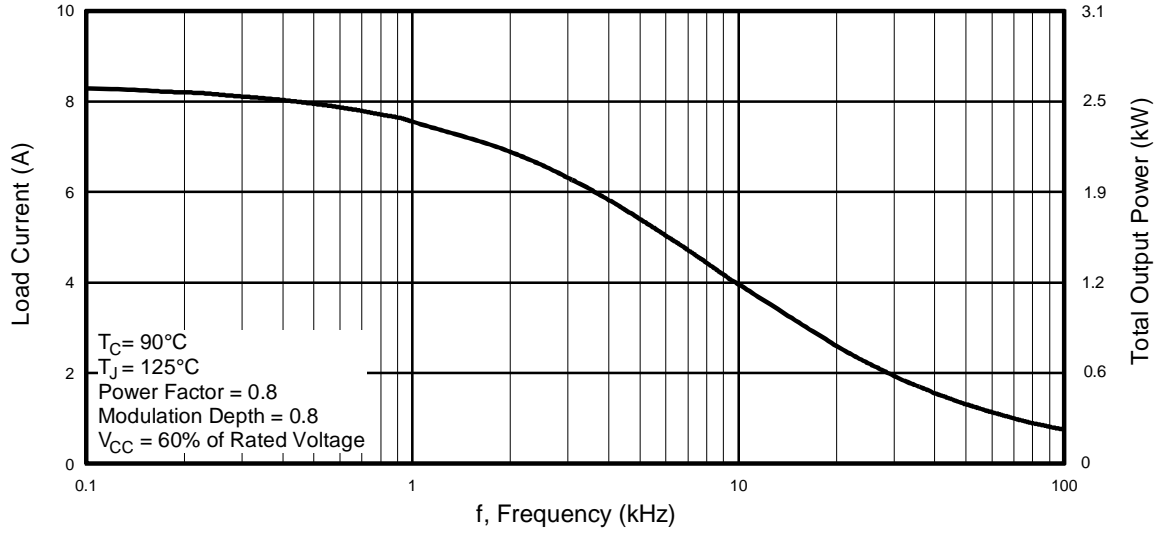

Fig. 1 - RMS Current and Output Power, Synthesized Sine Wave
- Optimized for medium operating frequency (1 to 10kHz) See Fig. 1 for Current vs. Frequency curve
7.65 A_{RMS} per phase (2.4 kW total) with $T_C = 90^\circ\text{C}$, $T_J = 125^\circ\text{C}$, Supply Voltage 360Vdc, Power Factor 0.8, Modulation Depth 80% (See Figure 1)